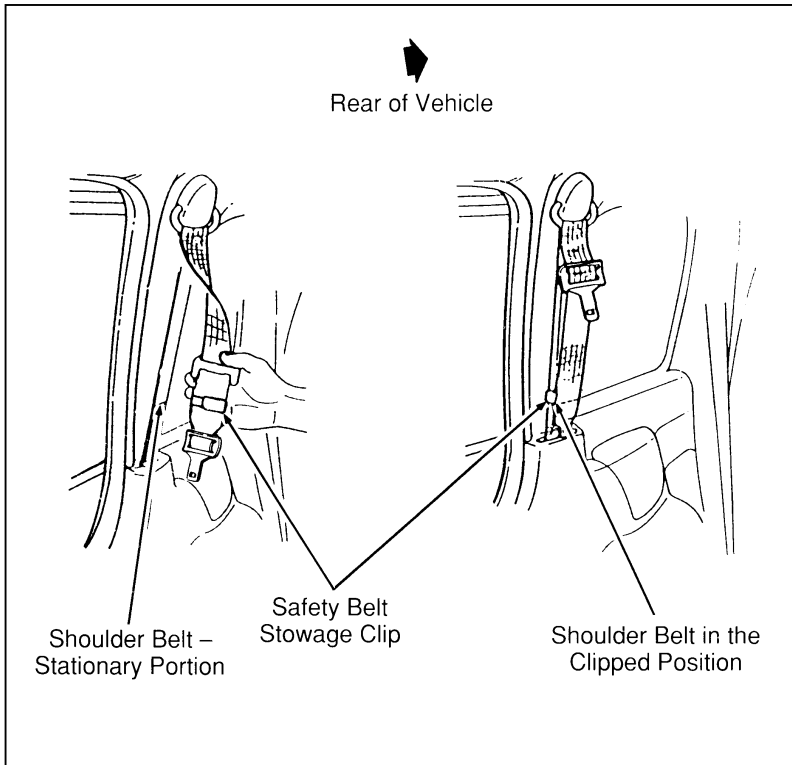

Figure 2: Securing the detachable shoulder belt
- Using the clip attached to the end of the shoulder belt, clip the end of the belt to the stationary portion of the shoulder belt (see Figure 2). The end of the shoulder belt **must** be clipped in order to keep it from striking anything during vehicle operation.